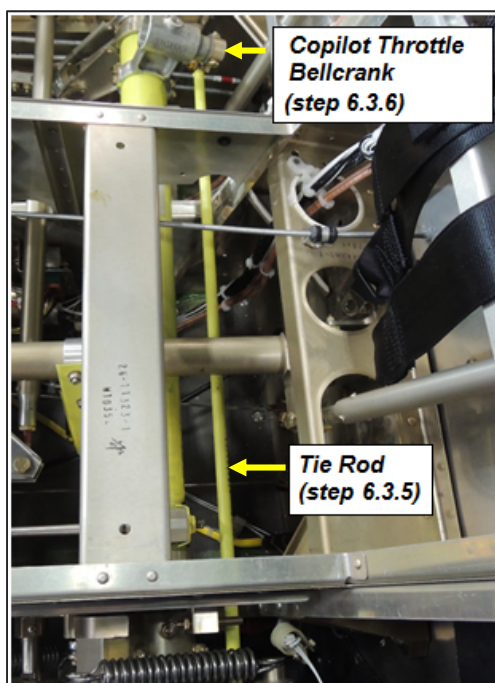

Figure 3. Copilot Throttle Bellcrank and Tie Rod
6.3.5 Remove the throttle tie rod assembly (Figure 3).
6.3.6 Remove the copilot throttle bellcrank (Figure 3).
- 6.4.19 Reinstall the copilot collective throttle bellcrank (Figure 3).
- 6.4.21 Reinstall the throttle tie rod (Figure 3).